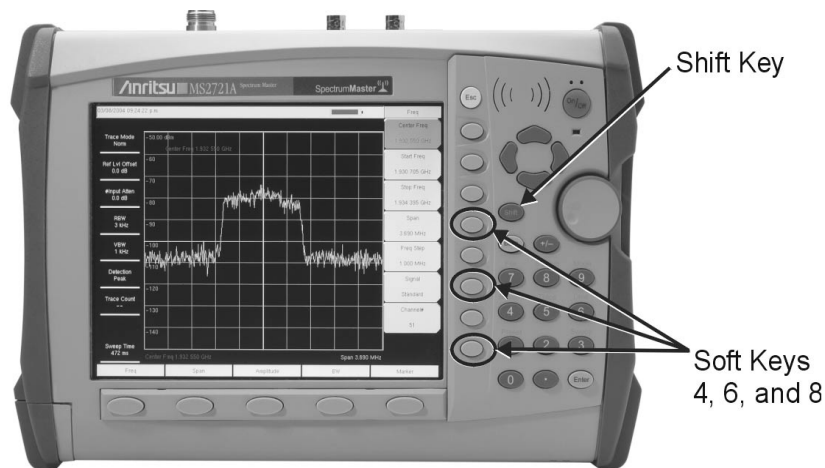

Figure 1. MT8220A UMTS Master Service Key Sequence
17. Press and hold the **Shift** key and press the **4**, **6**, and **8** (from top) soft keys together to enter into the UMTS Master Service Mode (Figure 1).